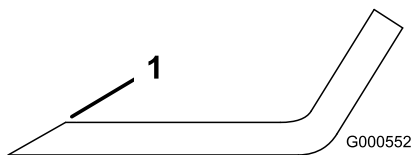

Figure 107
**Note:** If the blade is not balanced, file some metal off the end of the sail area only (Figure 107).
1. Use a file to sharpen the cutting edge at both ends of the blade (Figure 107).